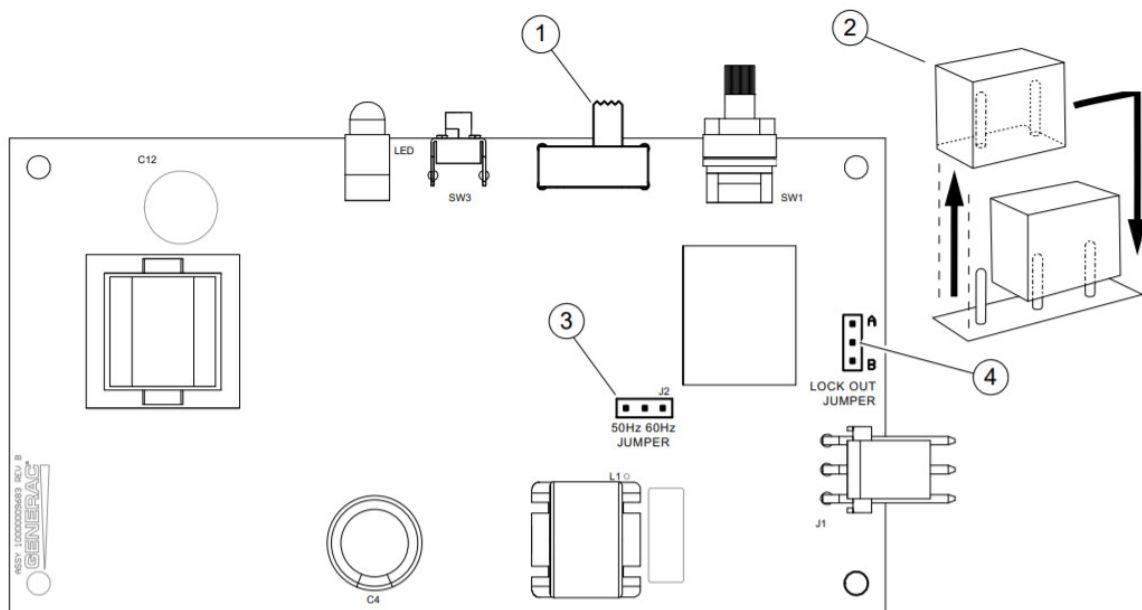

Figure 2-2. Jumper Locations
NOTE: LOCKOUT mode works in an overload condition, which is determined by generator frequency. If the generator has sufficient capacity, the load will be allowed to turn on even if the control is set to LOCKOUT mode. See **Figure 2-2**. To set SMM to enable standard lockout mode, slide lockout switch (1) to LOCKOUT LOAD ON
See Figure 2-2. The SMM control board is equipped with two movable jumpers (2). Jumper locations are indicated on the diagram:
- (3) Frequency Jumper – default for 60 Hz
- (4) Mode Selector Jumper (identified on control board as “Lock Out Jumper”) – position A is the default for most applications